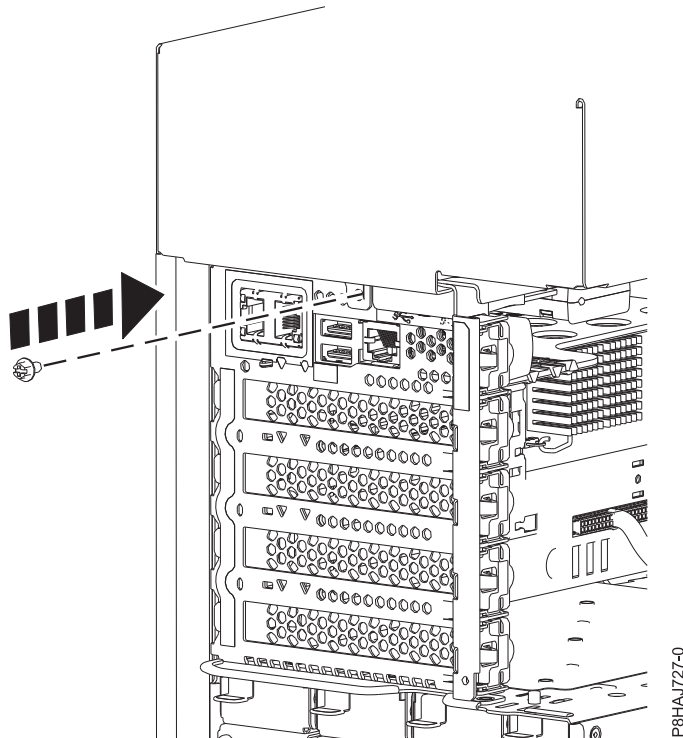

Figure 36. Installing the 8286-41A side cover screw
5. Install the side cover rear screw with a Phillips screwdriver as shown in Figure 36 on page 52.